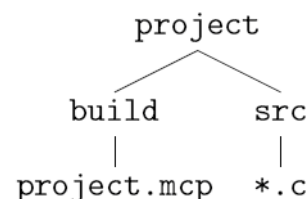

Figure 3-12 Structure with the source folder above the project file
6. If your source files are located in a folder above the CodeWarrior project root, select the **Override XML location** option. This enables you to select a different project root, so that the import wizard can mirror the parent structure when creating the new project. The example in Figure 3-12 shows the *project* folder as the parent structure to use for the new project root.